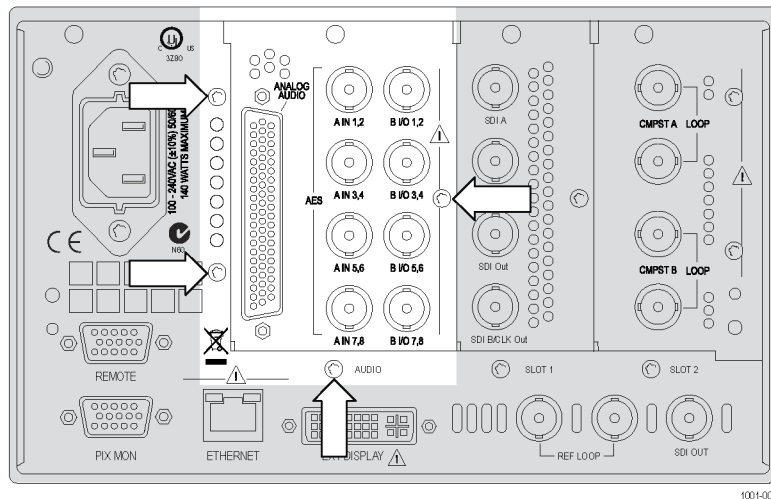

Figure 9: Removing the audio rear panel screws
1. Remove the four screws from the audio rear panel. Save the screws for reinstallation. (See Figure 9.)